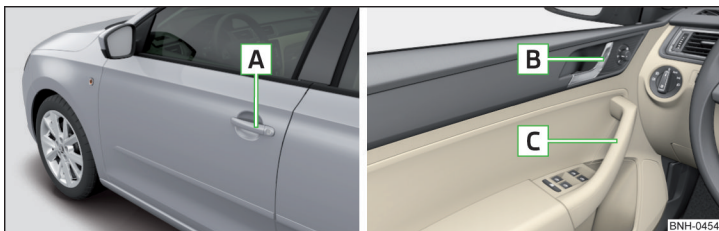

Fig. 32 Door handle/door opening lever
- Pull on door handle  » Fig. 32 on the door you wish to open.